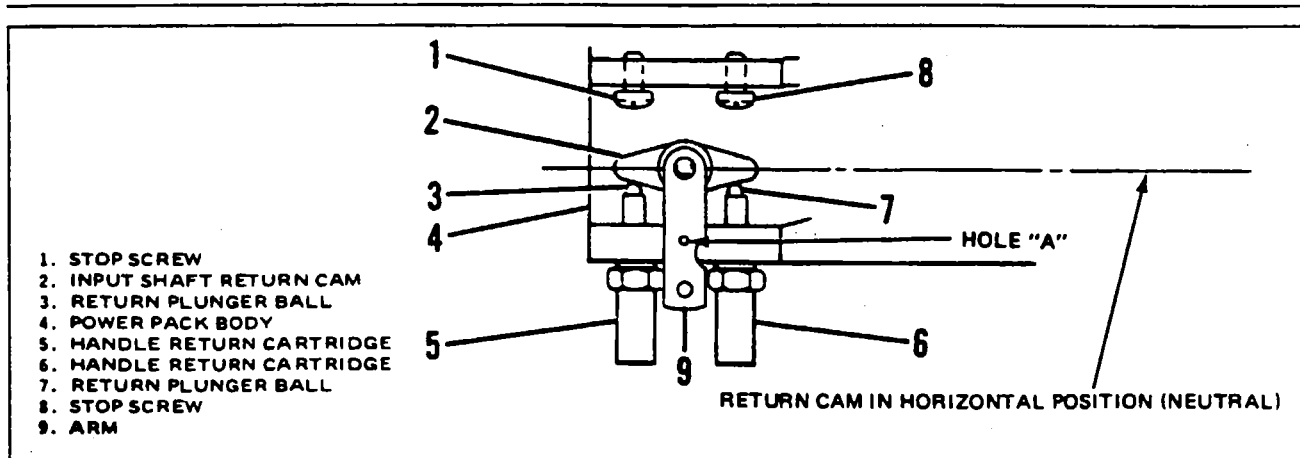

Figure 6-17. Handle Release Adjustment (Wiebel Tool)
6-97. ADJUSTMENT OF HANDLE-RELEASE MECHANISM. (Refer to Figure 6-17.) The following procedure outlines the adjustments to set the handle release cartridges and stops in the correct position before installing the Power Pack into the airplane.
- c. Rotate the input shaft to the neutral position, which will bring the input shaft return cam (2) to the horizontal position.
- d. Hold the input shaft return cam (2) in the horizontal (neutral) position by inserting a .125 dia. drill or punch through hole in the arm (9) and into rigging hole in body (4). Rigging hole is noted as hole "A" in Figure 6-17. Adjust handle return cartridges (5) and (6) in such a manner that their return plunger balls (3) and (7) touch the surface of the input shaft return cam (2) slightly.